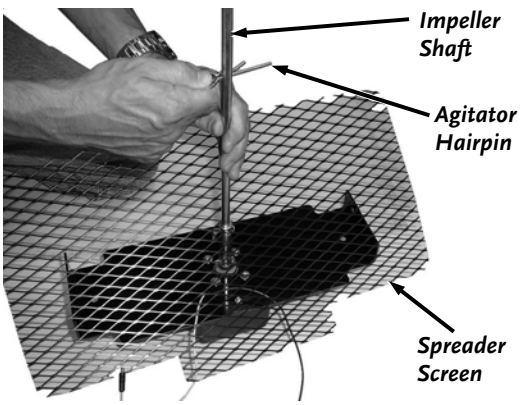

Figure 8
9. Slide the Impeller Shaft through the hole in Spreader Screen and insert the Agitator Hairpin through the center hole in the Impeller Shaft (**Figure 8**).